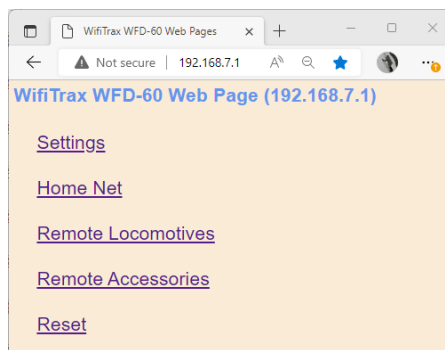

Figure 26 The Main Menu of the WFD-60
- (4) Now you are ready to start working on your WFD-60. On your computer, tablet or phone connect to its Wi-Fi Access Point, wftrx\_WFD60\_1\_XXXXXXX\_7, where XXXXXXXX is its serial number.
- (5) Open a browser and type 192.168.7.1 into the URL textbox, then hit enter. This should display the main menu as in Figure 26.